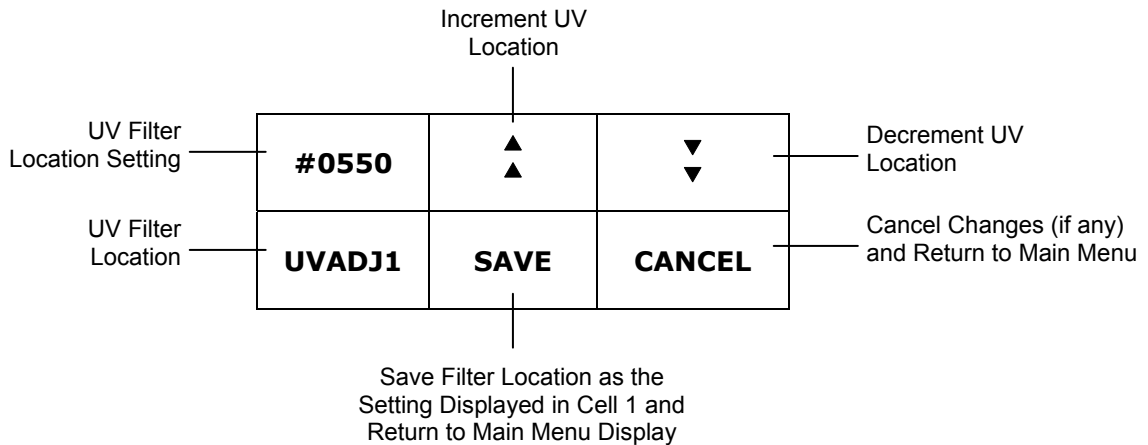

Figure 3-2. Touch Pad UV Filter Setup Display
1. Touch and release Cell 6 on the Main Menu Display until the Setup Menu is displayed on the Touch Pad. It should look like Figure 3-2.
2. Touch and release Cell 4 until the UV filter location (either UVADJ1 or UVADJ2) that you want to setup is displayed. For example, Figure 3-2 shows UVADJ1 as the selected filter location.
2. Touch and release Cell 6 on the Touch Pad until the Setup Menu is displayed. It should look like what is seen in Figure 3-2.